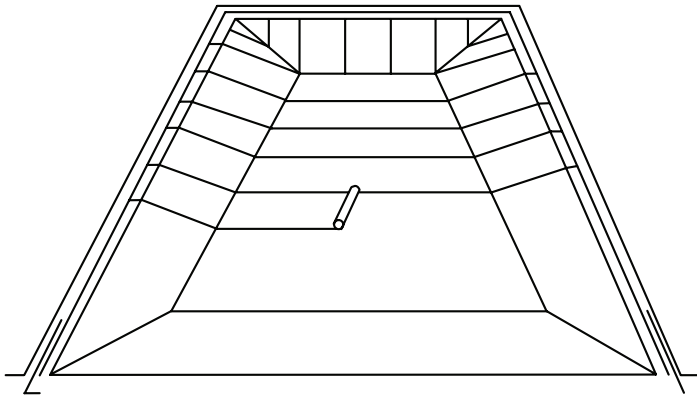
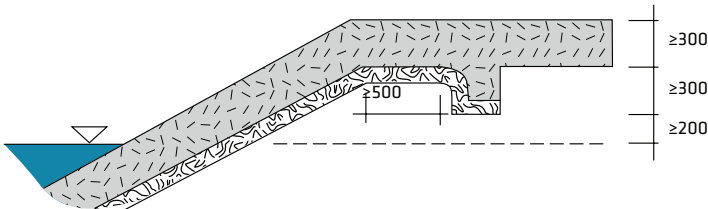

Figure 8 Recommended panel layout for sloping sites
Figure 9 Typical anchor trench (all dimensions shown are typical values only)
Elcoseal panels should be deployed in the direction of the slope as per Figure 8 and anchored at the crest of the slope (Figure 9). End (or transverse) overlaps on steep slopes should be avoided. If overlaps on slopes are unavoidable, please consult your local Geofabrics branch for information on custom extra-long GCL rolls.
- An anchor trench should be used at the top of slopes steeper than 7H: 1V. (see Figure 9 for a typical anchor trench detail);